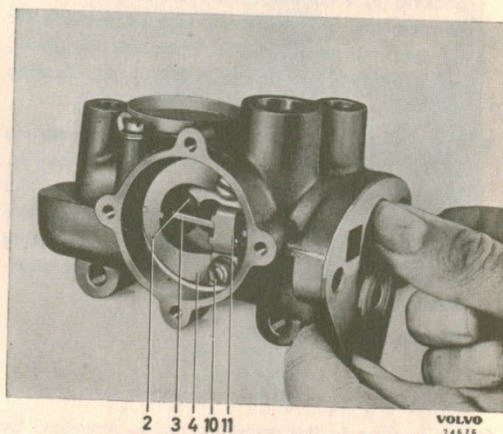

Fig. 7-26. Testing the control device
control plunger (30) backwards and forwards (Fig. 7-26) when the valve should close and open respectively. In the normal position the valve nearest the flange should be open and the other one closed. Fit the packing and cover (7) with vacuum line. A suitable tightening torque for the bolts is 2-3 lb.ft. (0.3-0.4 kgm).